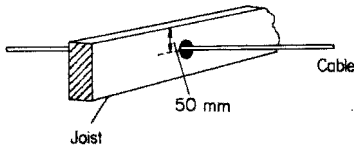

Fig. 14.18
- 4 Cables passing through wooden joists should be 50 mm below the top or above the bottom of the joist (Fig. 14.18).